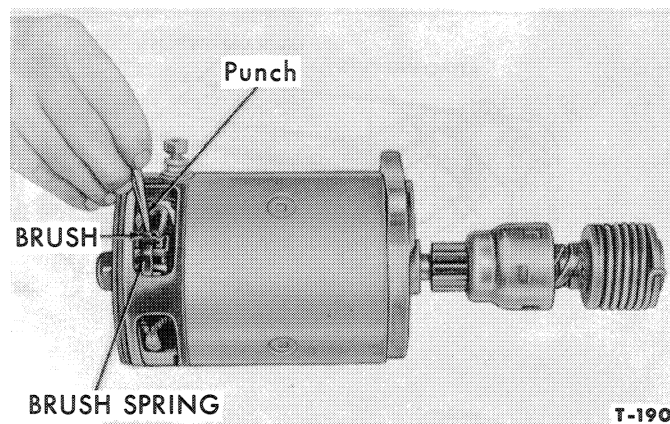

Figure 31—Releasing Brush Springs
4. Press the brushes down with a small punch to release the springs and seat them on the commutator as shown in Figure 31. Install the cover band on the frame.